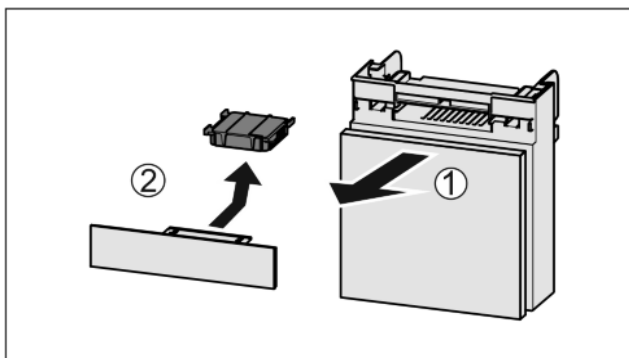

Fig. 41
- ▶ Pull out the compartment Fig. 41 (1).
- ▶ Remove the carbon filter Fig. 41 (2).